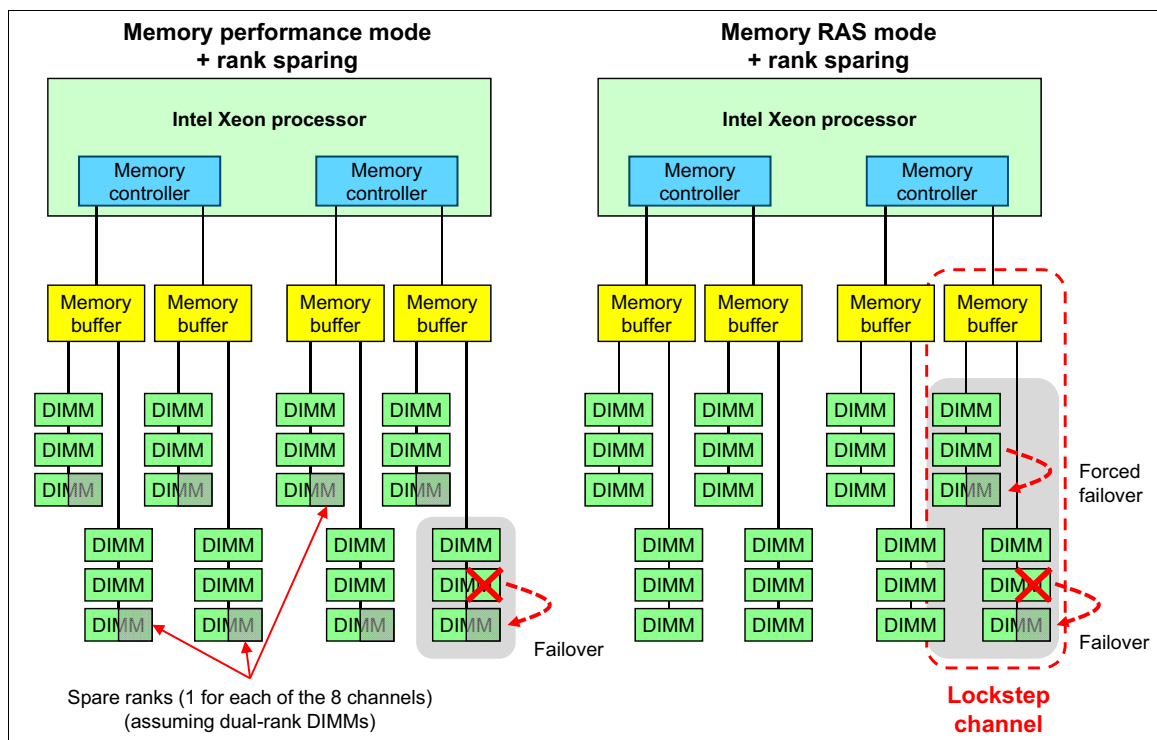

Figure 3-13 Rank sparing: Performance mode (left) and RAS mode (right)
- ▶ When performance mode is used, rank sparing duplicates data between memory modules of same channel of one memory buffer. In the event of an imminent failure (red X in Figure 3-13 on page 40), that rank is taken offline and the data is copied to the spare rank.
- ▶ When RAS (Lockstep) mode is used, rank sparing duplicates data between memory channels of one memory buffer. In the event of an imminent failure (red X in Figure 3-13 on page 40), that rank is taken offline and the data is copied to the spare rank. In addition, the partner rank on the other channel that is connected to the same memory buffer is also copied over.
Figure 3-13 shows the rank sparing usage in conjunction with Performance mode (left) and RAS mode (right).